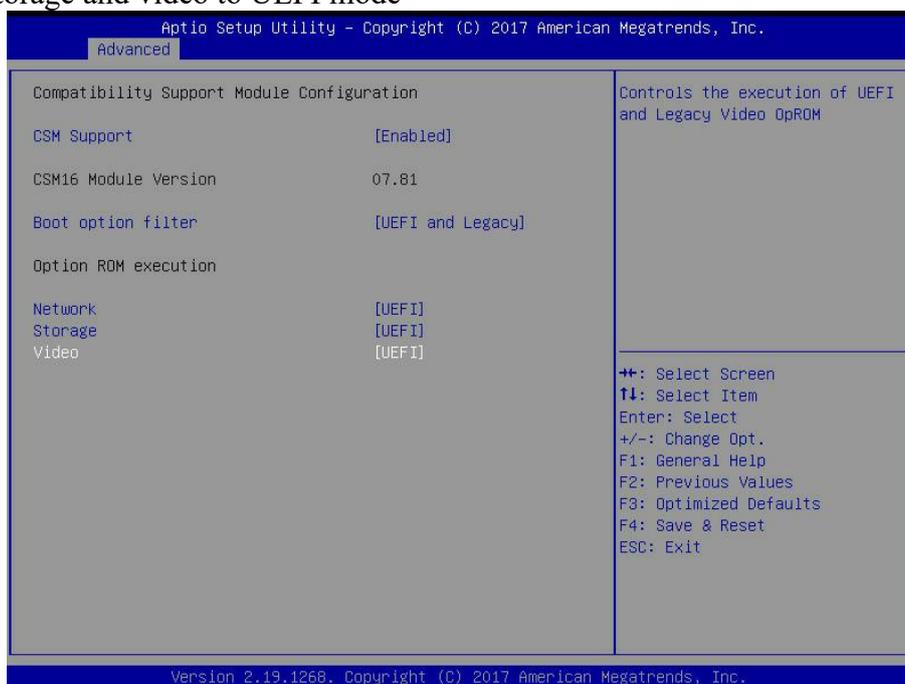

Fig.6.2
- c) Ensure that storage and video in CSM configuration are in UEFI mode, as shown in Fig. 6.2
- d) Fig. 6.2 Set storage and video to UEFI mode